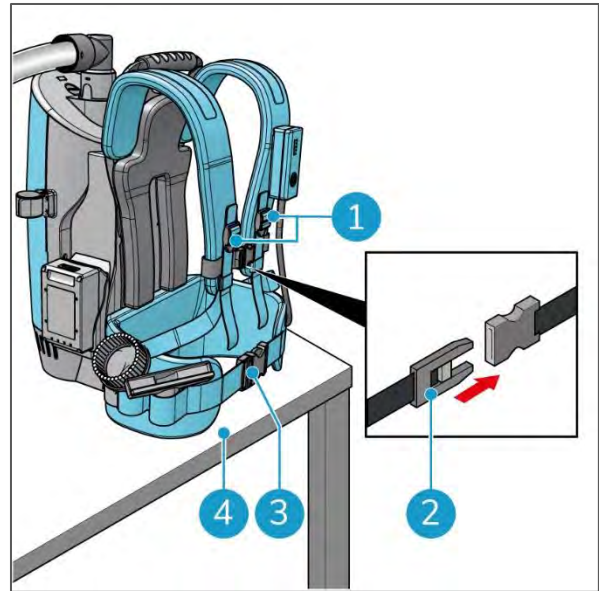

Figure 18
7. Place the i-move 2.5B® on a table or similar (Figure 18, pos 4).
8. Open the waistband (Figure 18, pos 3).
9. Loosen the buckle at the front (Figure 18, pos 2).
10. Loosen the 2 buckles (Figure 18, pos 1).
7. Place the i-move 2.5B on a table or similar (Figure 18, pos 4).